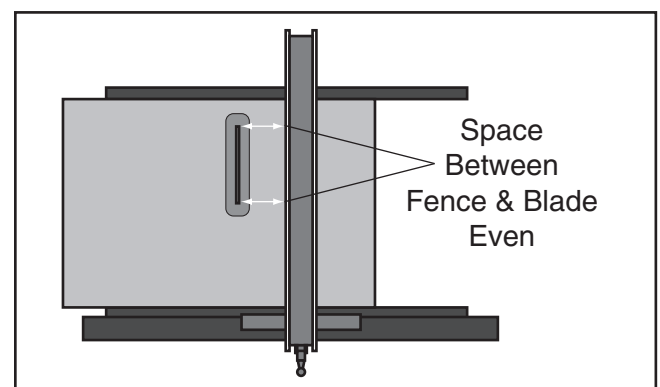

Figure 120. Example of fence aligned parallel with miter slot.
- Rotate blade 180° (see **Figure 120**), and recheck distance between fence and blade tooth you marked in **Step 4** to ensure they are parallel.